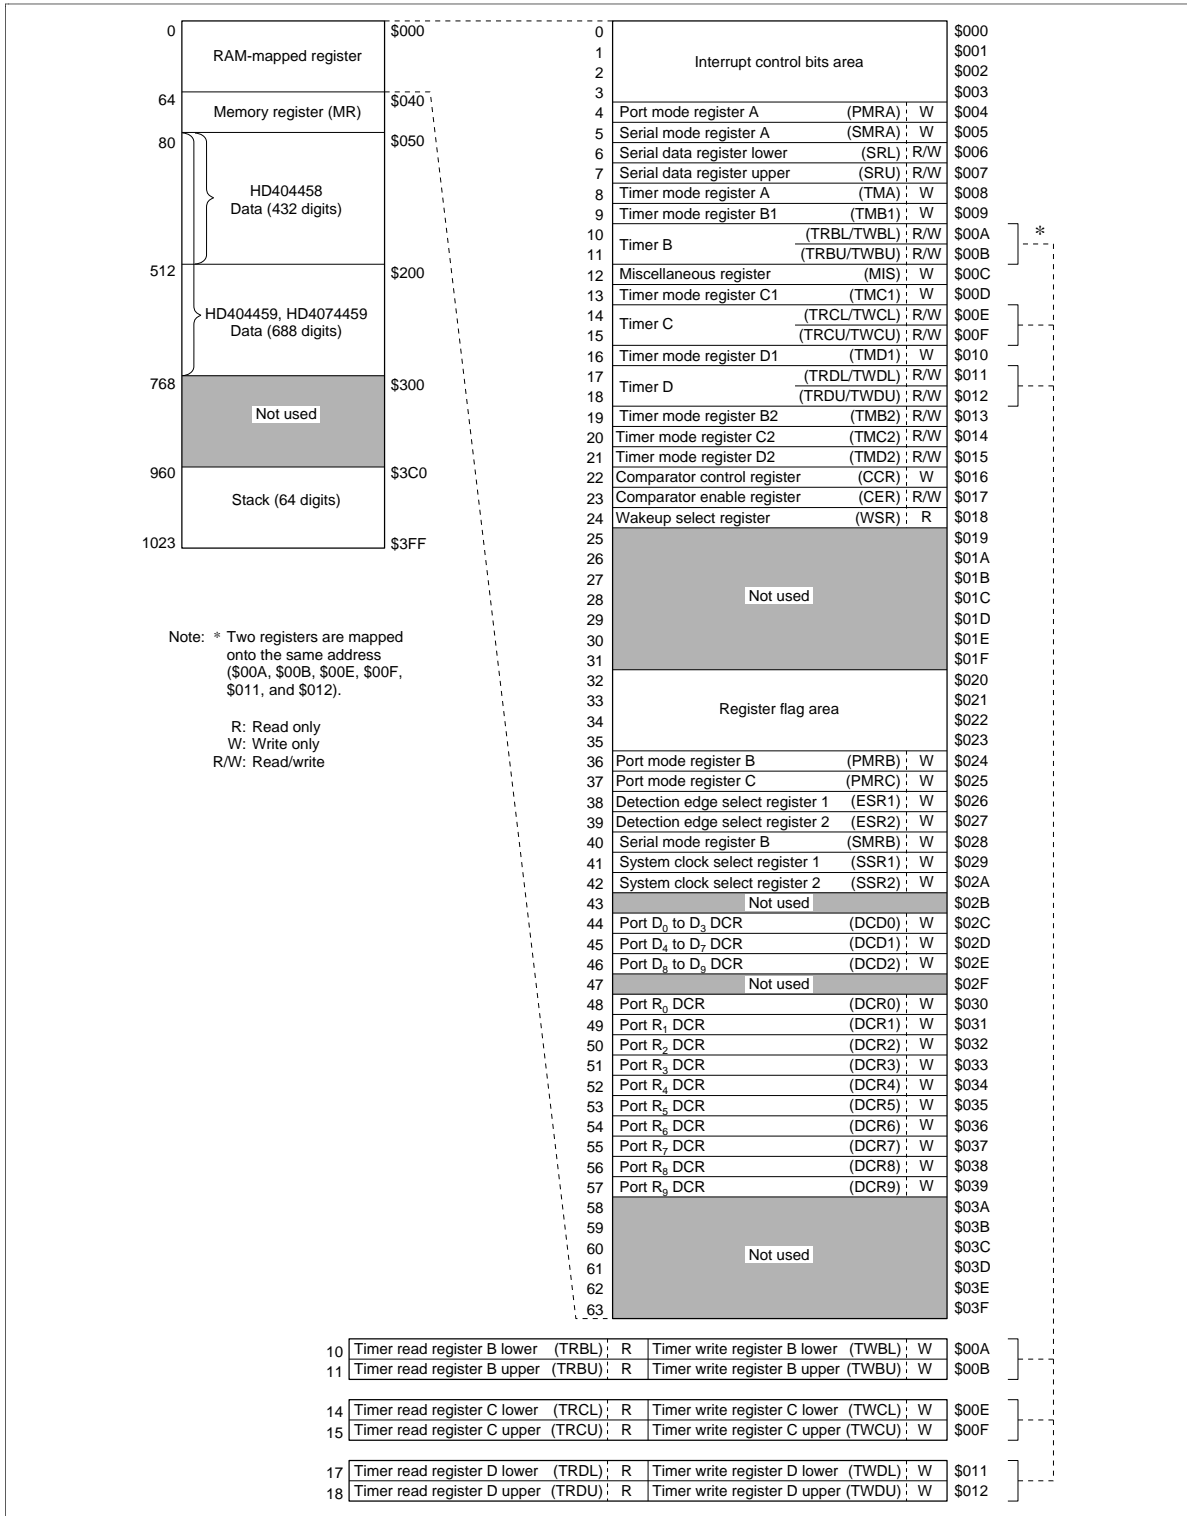

Figure 2 RAM Memory Map
The HD404458 MCU contains a 512-digit  $\times$  4-bit RAM area. The HD404459 and HD4074459 MCUs contain 768-digit  $\times$  4-bit RAM areas. Both of these RAM areas consist of a memory register area, a data area, and a stack area. In addition, an interrupt control bits area, special register area, and register flag area are mapped onto the same RAM memory space labeled as the RAM-mapped register area. See the RAM memory map of figure 2.
This area is used as mode registers and data registers for external interrupts, serial interface, timer/counters, and as data control registers for I/O ports. See figures 2 and 5. These registers can be classified into three types: write-only (W), read-only (R), and read/write (R/W). RAM bit manipulation instructions cannot be used for these registers.